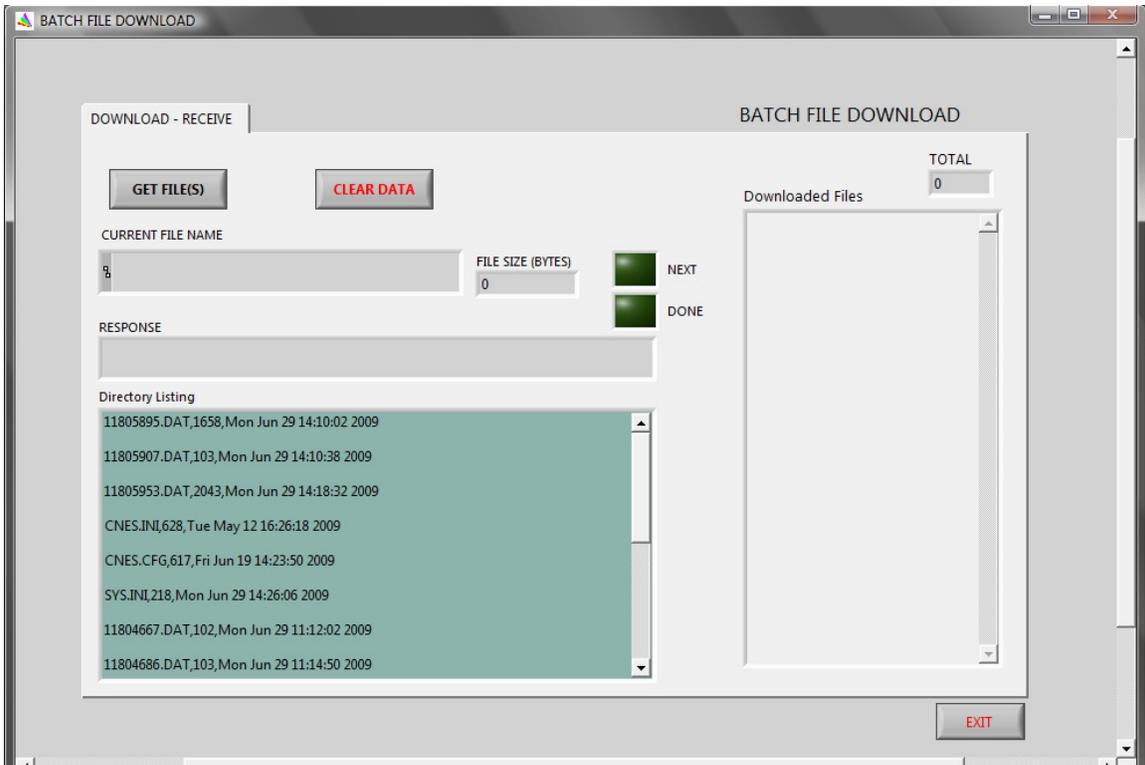

Figure 12: The Batch file download window
- 2) Click on the **Batch** button and a new window will appear as in Figure 12.
- 3) To receive the DAT files on the CNES after a deployment, click on the GET FILE(S) button.